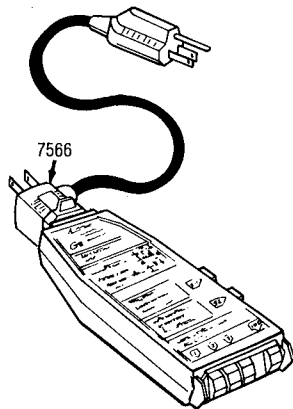

Figure 41
You will need the Model 7566 Calibration Reference Probe, or Model 7566-1 if your instrument is calibrated at 1 ohm (Fig. 41).
- Step 2. Insert the instrument into the plug end of the 7566 Probe (Fig. 41).